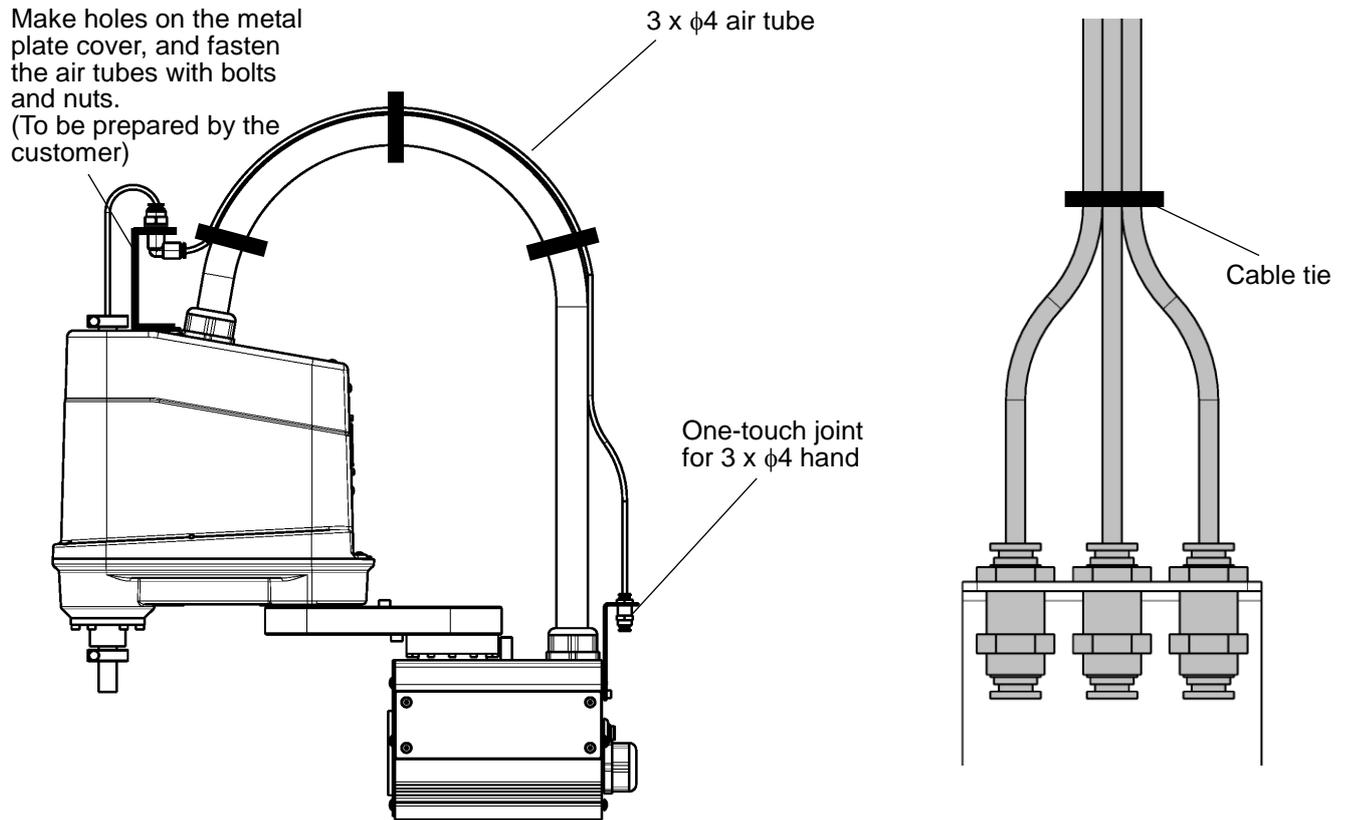

Fig. 9.2 Tool air piping installation example (KHL-300 and KHL-400)
Fig. 9.2 shows an installation example of tool air piping for your reference.
- Fig. 9.2 is a reference example. Tool air piping is not guaranteed. The warranty does not cover breakdowns of the harness, the air tubes or their accessories due to piping by the customer.